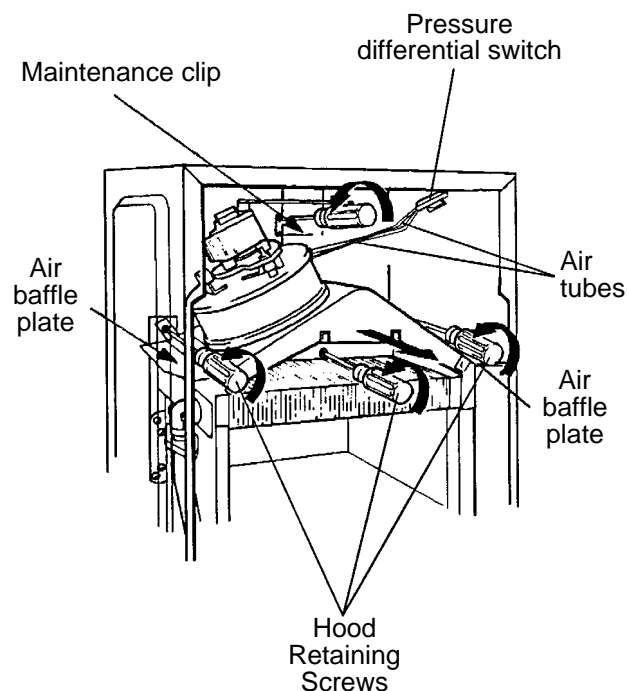

Fig. 31
- 8.8.4 Remove two air baffle plates, 1 screw securing each (fig. 31).
8.9.2 Loosen maintenance clip securing screws (see fig. 31) and slide upwards to clear joint.
8.9.4 Remove 5 flue hood retaining screws (see fig. 31).
Refer to Fig. 31